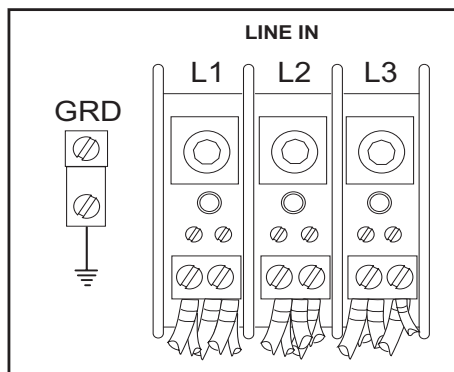

Fig. 12 - Three Phase Power Connection 208-240V/60/3
3. Connect the incoming 3-phase power as shown (see Fig. 12).